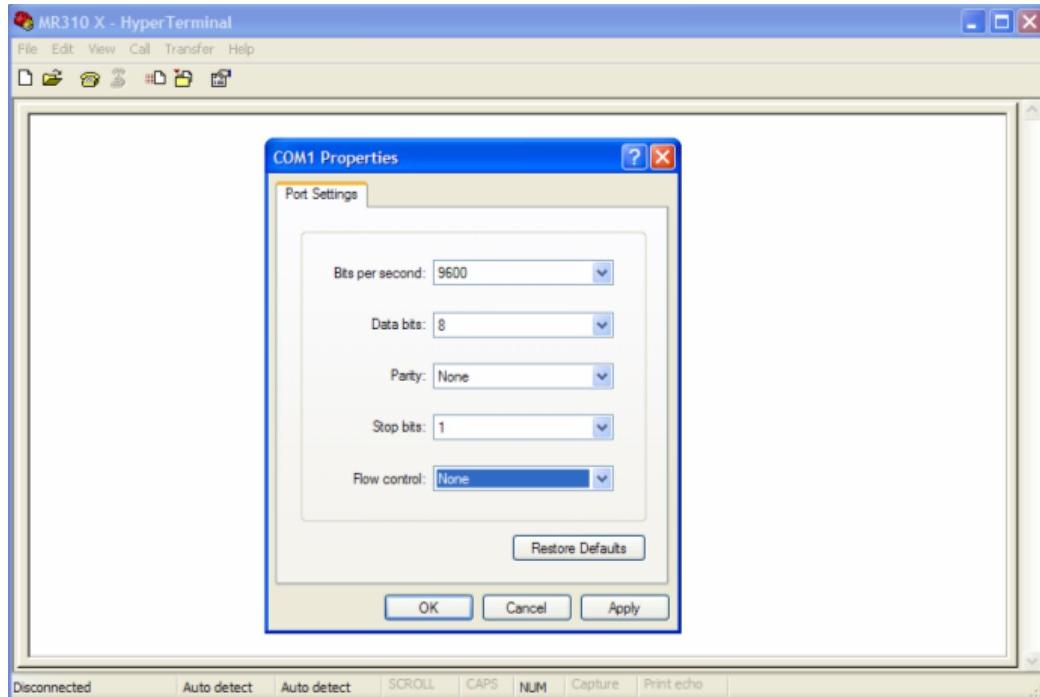

Figure 21. Set-up Parameters for HYPERTERMINAL Program.
- STEP 2: Now start up WINDOWS Hyperterminal on your PC. Type in any character and you should see that character being echoed back on the Hyperterminal screen. As shown in Figure 21, configure Hyperterminal with the proper communication settings --
- STEP 3: If the above is successful, then we know that the computer does send out and receive back signals properly through the cable. Verify again that the *Hyperterminal* communication settings (see Figure 21) have been set correctly for communicating with the MR310 because *Hyperterminal* can send and receive with any mix of settings.